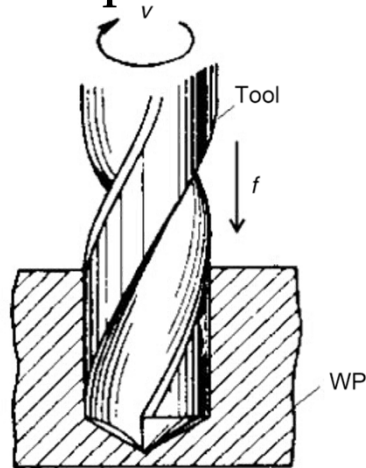

FIGURE 3.15 Drilling operation.
- This process involves feeding a rotating cutting tool (drill) along its axis of rotation into a stationary WP (Figure 3.15).